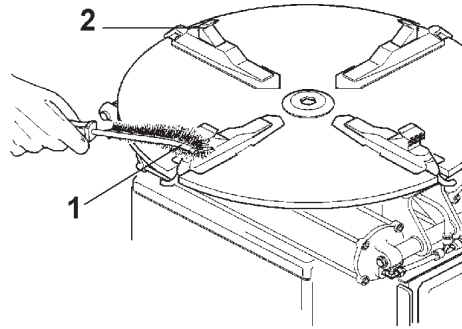

Fig.7.0-2
**C.** Weekly clean the teeth of the clamps (1) with a wire brush, check the nylon clamping jaw insert and (2) replace if worn (Fig.7.0-2).